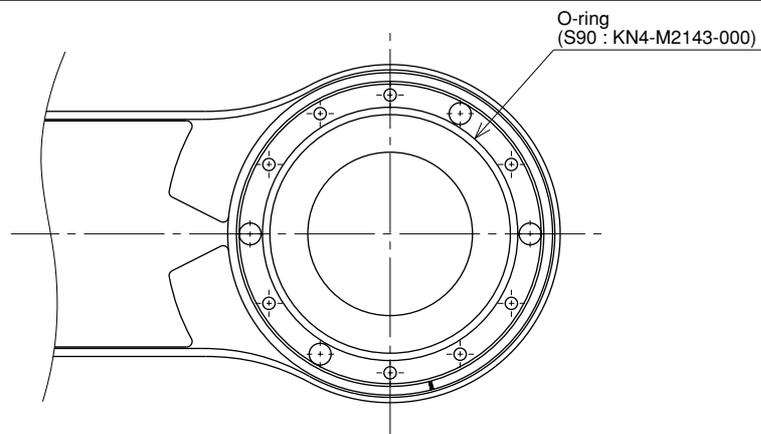

**Fig. 5-19**
- 11) Remove the X-axis arm installation bolts (M4×40L, 8 pieces). (See Fig. 5-19.)
- 17) Fit a new O-ring into the O-ring groove on the X-axis arm (see Fig. 5-20) and secure it to the harmonic drive. Then apply small amounts of "Screw Lock" to the bolts (M4×40L, 8 pieces) you removed earlier and tighten them uniformly to secure the X-axis arm. (See Fig. 5-19.)